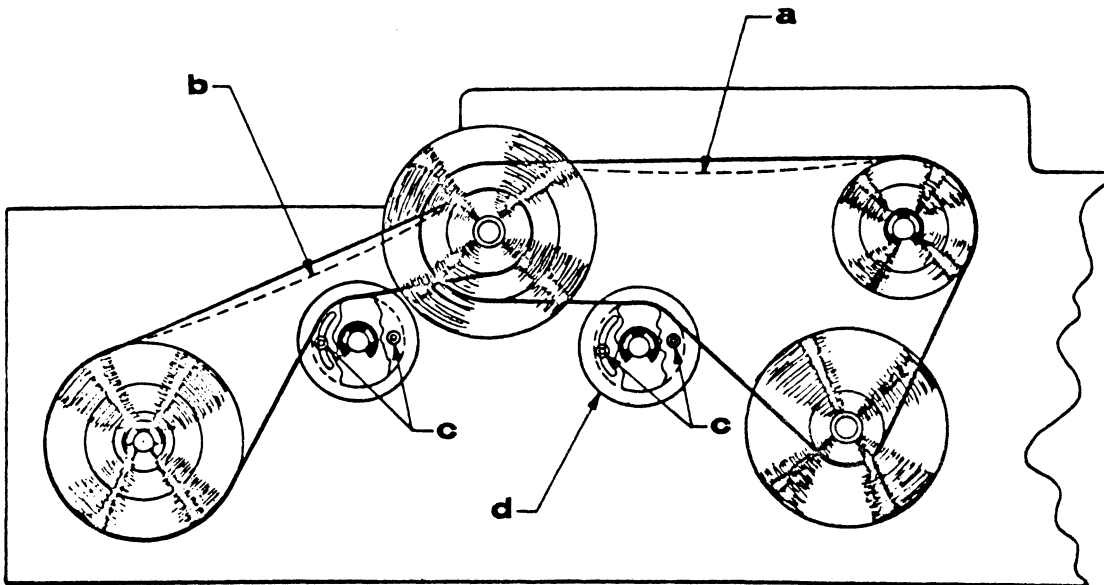

Figure 4-13. Drive Belt Idler Pulleys
9. DRIVE BELT IDLER PULLEYS (figure 4-13)